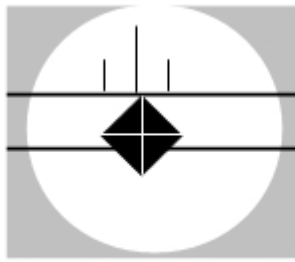

Figure 5-12 Move Top Filar Line to Top Tip
7. Rotate the eyepiece assembly 90° clockwise. Observe the image through the eyepiece. The filar line is now perpendicular to the other diagonal (Refer to Figure 5-12) .
8. Turn the filar positioning knob to move the top line to the top tip of indent. This operation moves both lines simultaneously. Refer to Figure 5-12.